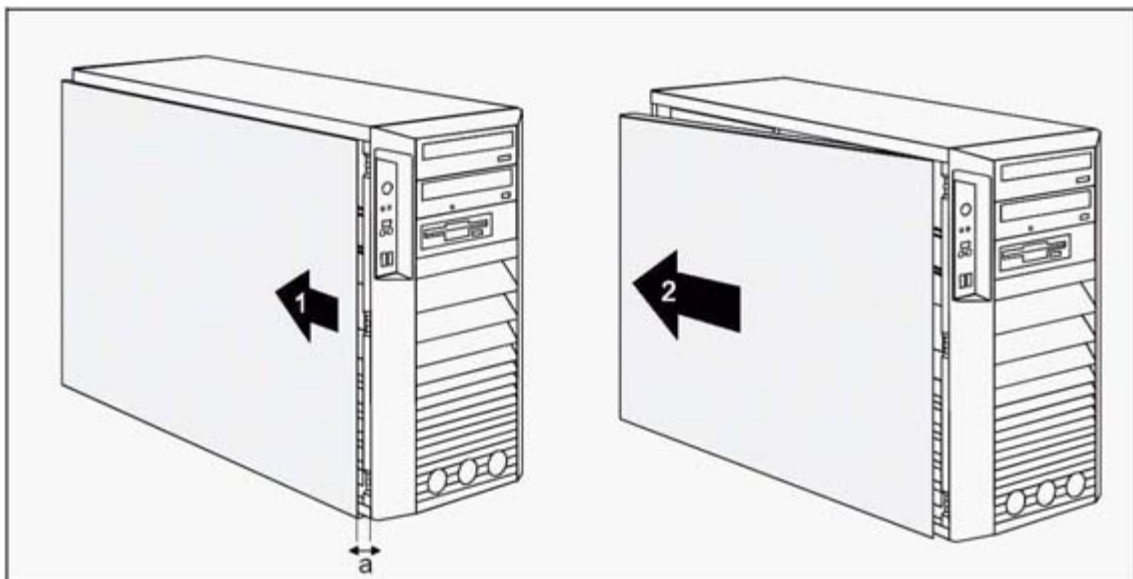

Fig. 39: Remove PC cover_b M450_
5. Slide the side cover approximately 2 cm (a/ Fig. 39 / p. 70) in the direction of the arrow (1/ Fig. 39 / p. 70), until the stop.
6. Pull the side cover in the direction of the arrow (2/ Fig. 39 / p. 70) of the casing.